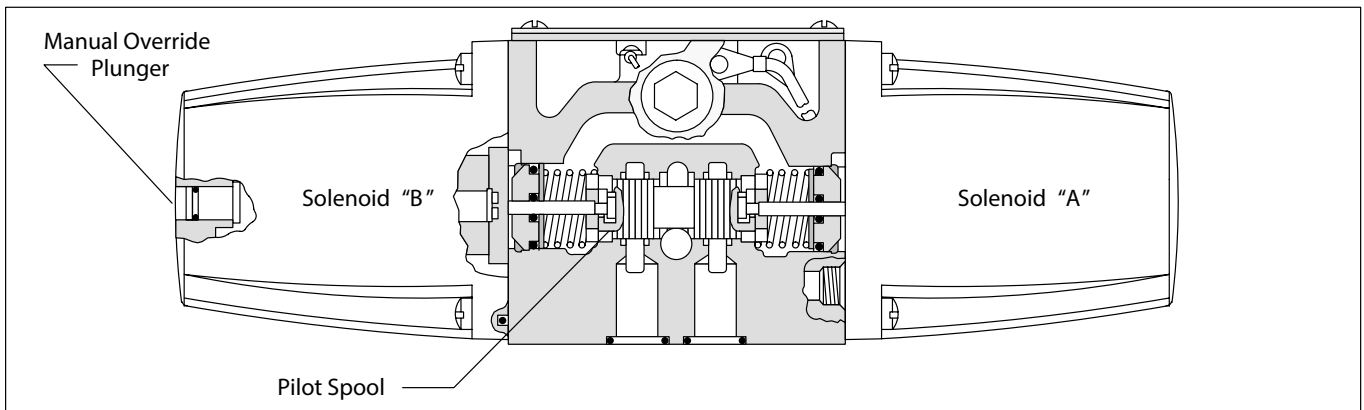

Figure 13c. DG4S4-01-50 Pilot Valve, Sectional View
c. Air Gap Solenoids : DG4S4-01 pilot valves are usually equipped with air gap solenoids. Air gap solenoids are isolated from system fluid and can be removed and replaced without disturbing the system. A push pin and sliding seal arrangement couple the solenoid to the valve spool (see Figure 13c).